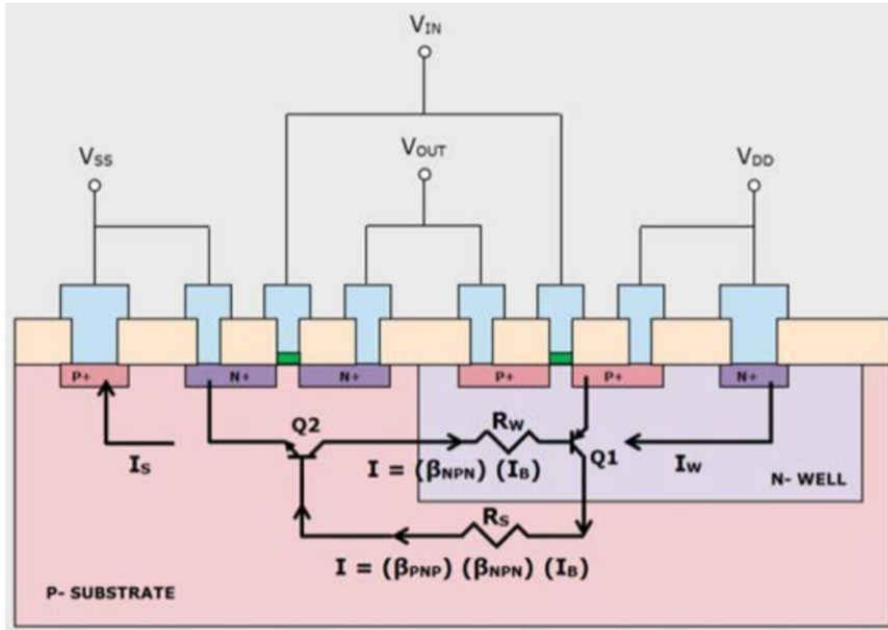
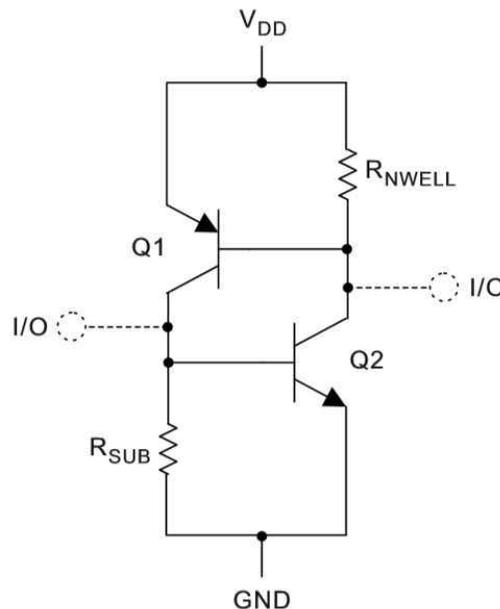

Figure 1-1. SCR Formation In CMOS Process: Inverter
Figure 1-2. SCR Equivalent Circuit
In CMOS based IC's, the P-doped and N-doped regions of different NMOS and PMOS circuits can create a parasitic PNPN structure that acts similarly to a silicon controlled rectifier, a SCR. Figure 1-1 shows the SCR that forms in a typical CMOS process inverter with a P-type substrate and an N-well. A PNP BJT is created with the emitter on the P+ source or drain of the PMOS, the base located in the N-Well, and the collector is formed in the P-substrate. The NPN BJT is formed with the collector located in the N-Well, the base in the P-substrate, the emitter tied to the N+ source or drain of the NMOS. The resulting Equivalent Circuit is found in Figure 1-2.
1. Applying a voltage beyond the supply rails on the I/O pins of the CMOS system. Looking back towards the circuit in Figure 1-2, if any of the I/O voltages go beyond the supply rails this can cause the BJT's to start conducting and initiate a latch-up event.